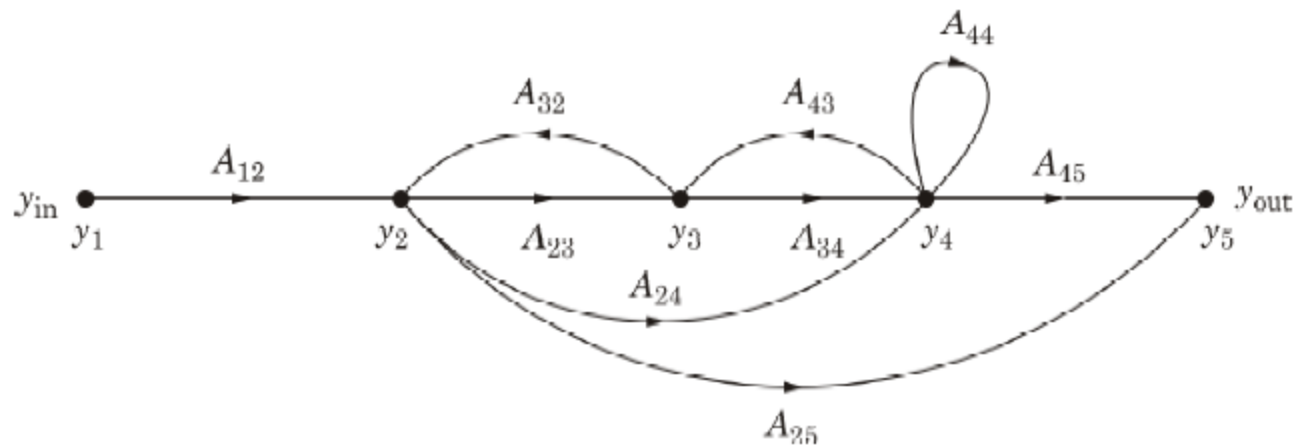
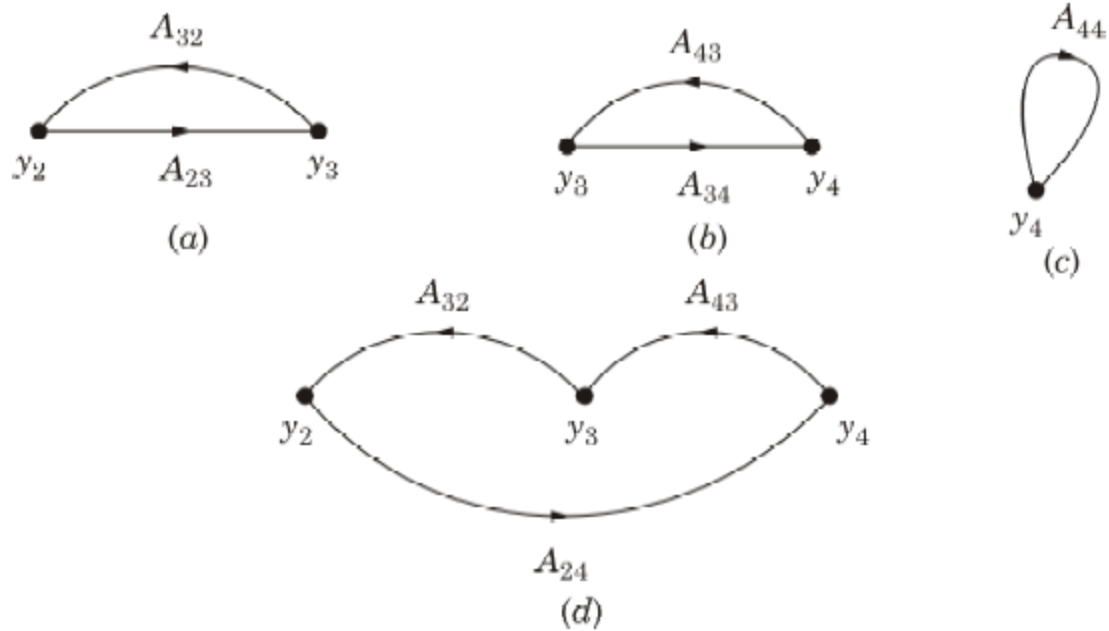

Fig. 2.2 Signal Flow Graph
Fig. 2.3 Four Loops in the SFG of Fig. 2.2
1. **Input Node (Source):** An input node is a node that has only outgoing branches. Node y_1 in Fig. 2.2 is input node.
2. **Output Node (Sink):** An output node is a node that has only incoming branches and have no outgoing branches. Node y_5 in Fig. 2.2 is output node.
6. **Feedback loop or feedback path:** A loop is a path that originates and terminates on the same node and along which no other node is encountered more than once. For example, there are four loops in the SFG of Fig. 2.2. These are shown in Fig. 2.3.
7. **Path Gain:** The path gain is the product of the branch gains encountered in traversing a path. Path gain of path y_1 to y_2 to y_3 to y_4 in Fig. 2.2 is $A_{12}A_{23}A_{34}$.
9. **Loop Gain:** The loop gain is the path gain of a loop. For example the loop gain of the loop y_3 to y_4 to y_3 in Fig. 2.2 is $A_{34}A_{43}$.
10. **Nontouching loops:** If the loops does not have a common node then they are said to be nontouching loops. For example, the loop y_2 to y_3 to y_2 and y_4 to y_4 of the SFG in Fig. 2.2 are nontouching loops.
Let y_{in} be an input and y_{out} be an output node of a SFG shown in Fig 2.2. The gain, y_{out}/y_2 , where y_2 is not an input, may be written as